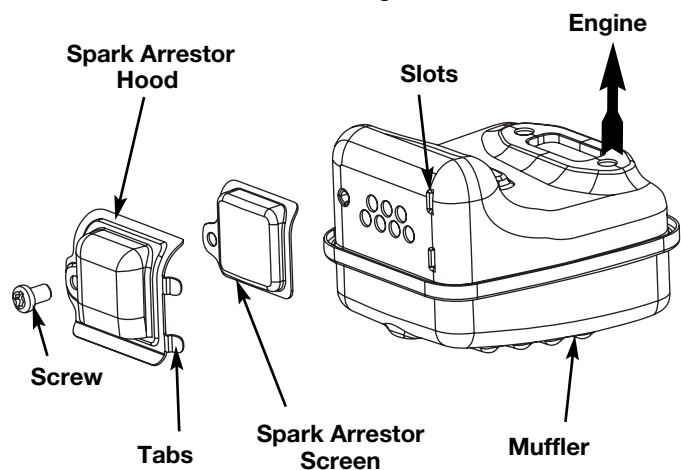

Fig. 30
2. Locate the muffler, but do not remove it. Find the one (1) screw on the bottom of the muffler (Fig. 30). These two screws hold the Spark Arrestor Hood Assembly and the spark arrestor screen to the bottom of the muffler. Remove the two (2) screws using either a torx #20 or flat blade screwdriver.
6. Place the spark arrestor plate on top of the spark arrestor with the "raised" side up and the opening facing towards the engine (Fig. 30).
7. Place the spark arrestor hood on top of the spark arrestor plate with the "raised" side up and the opening facing AWAY from the engine (Fig. 30). Verify that the exhaust will be directed AWAY from the engine.